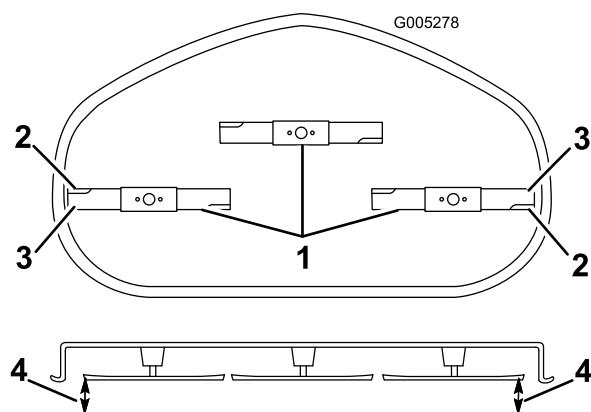

Figure 43
- Carefully rotate the blade(s) side to side (Figure 43). If both measurements are not within 3/16 inch (5 mm), an adjustment is required; continue with this procedure.
- Measure between the outside cutting edges and the flat surface (Figure 43). If both measurements are not within 3/16 inch (5 mm), an adjustment is required; continue with this procedure.